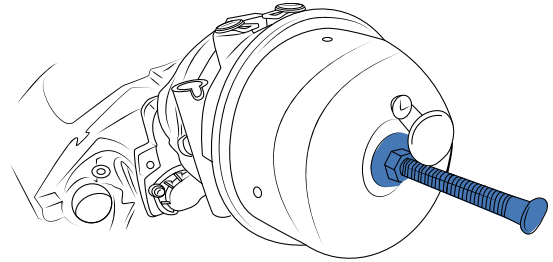

Figure 9 - *Parking brake chamber*
5. Turn release bolt clockwise (1/4 turn) to lock its head in the "T-slot" receptacle of the brake chamber **(Figure 9)**.